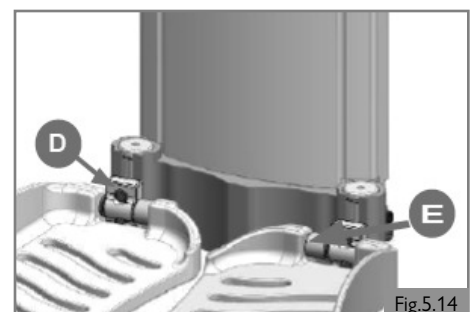

Fig.5.14
1. Remove bolt (D) with an Allen key. (Fig. 5.14)
2. Move spacer (E) from inside of footrest to the outer side.